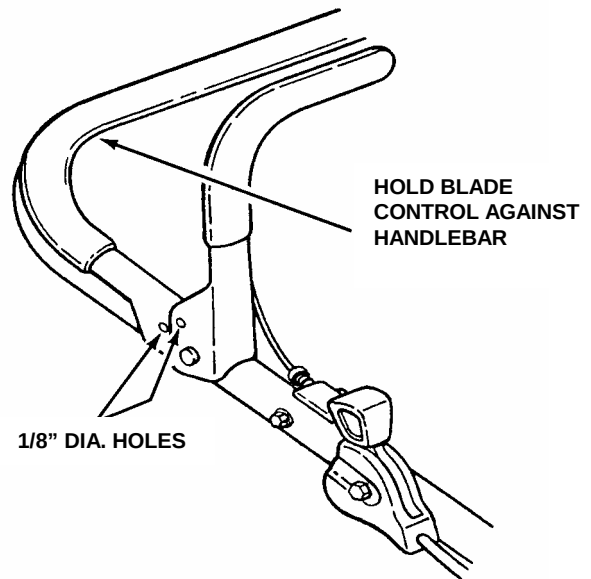

FIGURE 4.4
1. To check wheel drive control for correct adjustment, hold blade control against upper handle and pull wheel drive control backward slightly to remove any slack in wheel drive control cable. The wheel drive control is properly adjusted when the two 1/8" diameter holes, located at the connection point of wheel drive control and the blade control are aligned. See Figure 4.4.